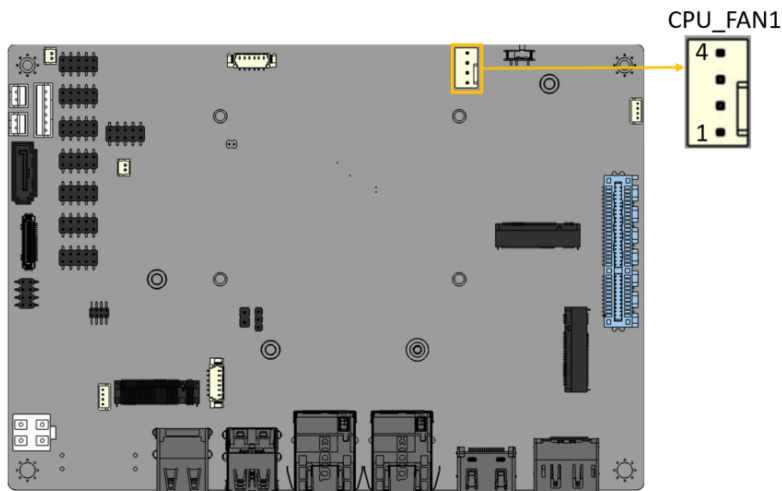

Figure 3-10: Fan Connector Location
- CN Location:** See **Figure 3-10**